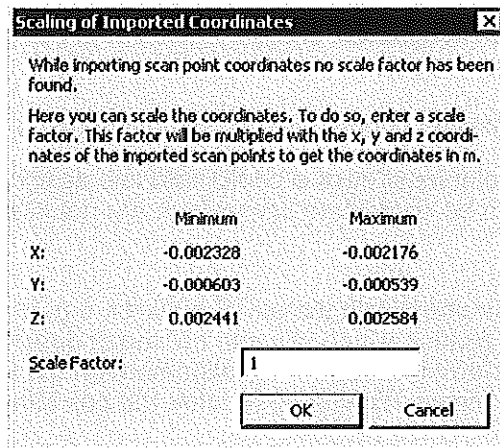

Figure 4.9: Dialog Scaling of Imported Coordinates
- ☞ If you are importing geometry from a file in ASCII format or a file in Universal File format which does not contain data set 164 with the units of the coordinates, you have to enter a scaling factor in the dialog 3D Alignment (refer to FIGURE 4.9). Factor 1 stands for the unit 1 m, factor 0.01 for the unit 1 cm etc.